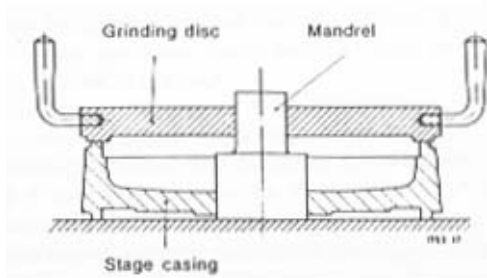
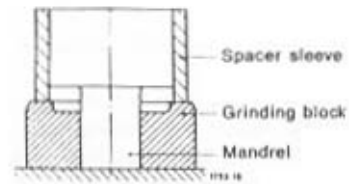

Fig. 19
Fig. 20
2. Gasket or metal-to-metal sealing faces damaged.	If the leakage cannot be cured by tightening the tie bolts, new gaskets should be inserted, or the metal mating faces should be re-ground. (Fig. 19).
Fig. 19 illustrates a grinding disc for stage casings, and Fig. 20 the grinding tool used for regrinding the rotating parts; the latter is designed as a bushing (socket), since only thus can it be ensured that the ground surfaces are truly perpendicular to the axis of the shaft.